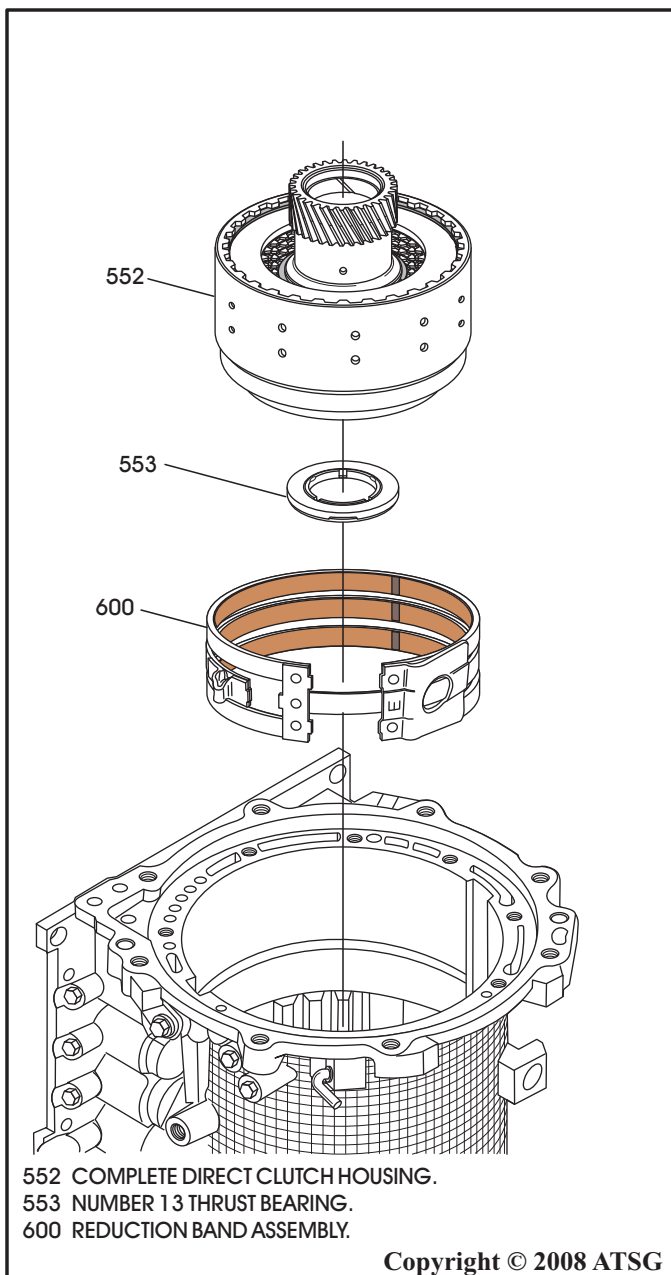

Figure 61
8. Remove the complete direct clutch housing, as shown in Figure 61, and set the drum aside for the component rebuild section.
9. Remove number 13 thrust bearing, as shown in Figure 61.
10. Remove the reduction band assembly from the case, as shown in Figure 61.